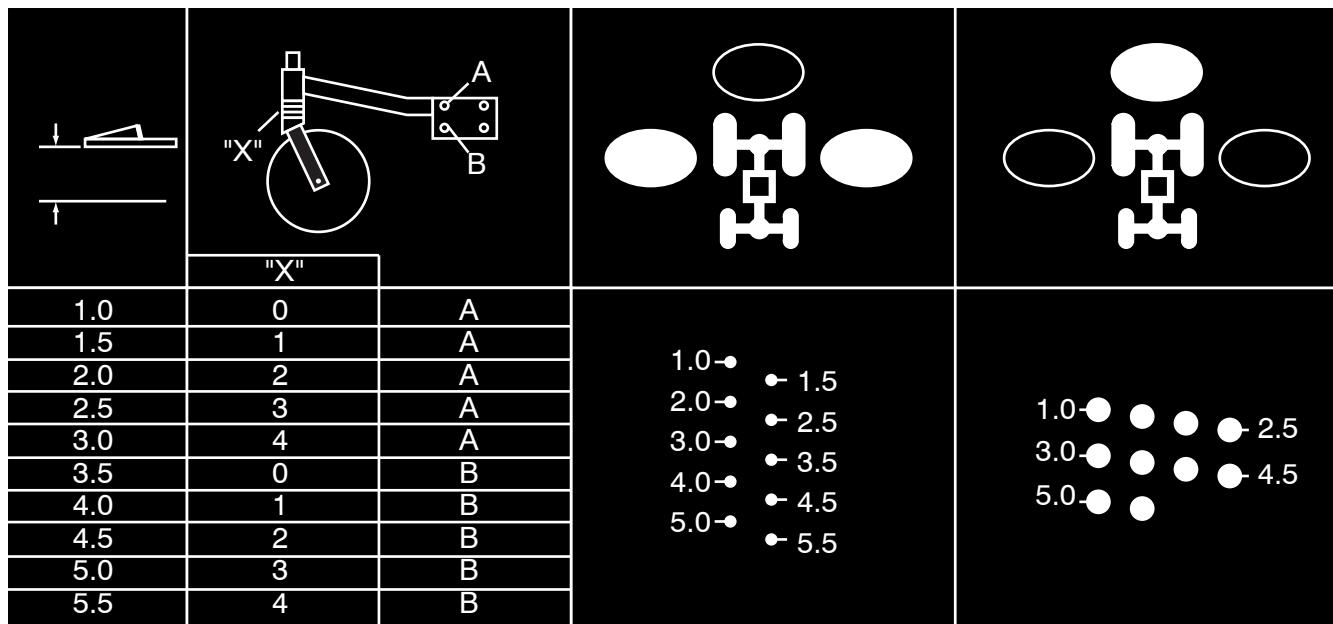

Figure 3M
- Figure 3M** shows the height adjustment decal for the casters.